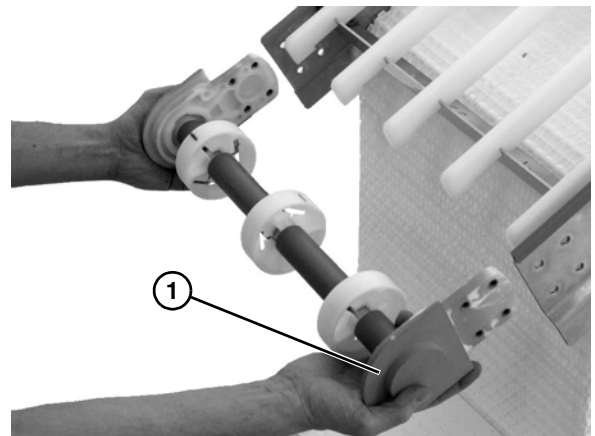

Figure 52
- Remove idler tail assembly (**Figure 52, item 1**).